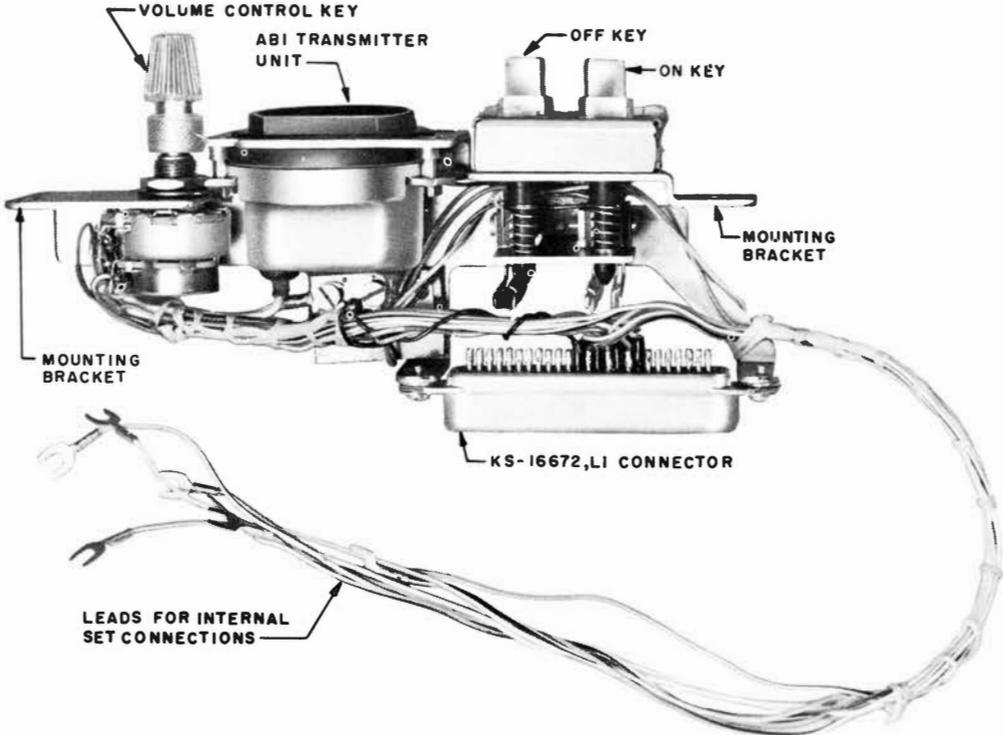

Fig. 7 - 661A Transmitter
3.08 The 661A transmitter module (see Fig. 7) is a plug-in module for the last position of the 600-series sets. This transmitter is used with 1A and 1A1 speakerphone systems. Components consist of an AB1 transistor unit, a volume control, an OFF button, and an illuminated ON button. A muting feature associated with the ON button allows a private conversation with others in the room without having the conversation transmitted over the line. Depressing and holding the ON button for such a conversation short-circuits